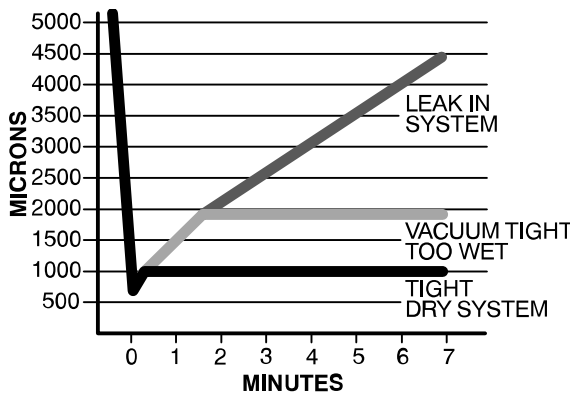

Fig. 28 —Deep Vacuum Graph
7. Evacuate using either the deep vacuum or the triple evacuation method (see Fig. 28 and 29).
The deep vacuum method requires a vacuum pump capable of pulling a vacuum of 500 microns and a vacuum gauge capable of accurately measuring this vacuum depth. The deep vacuum method is the most positive way of assuring a system is free of air and liquid water (see Fig. 28).